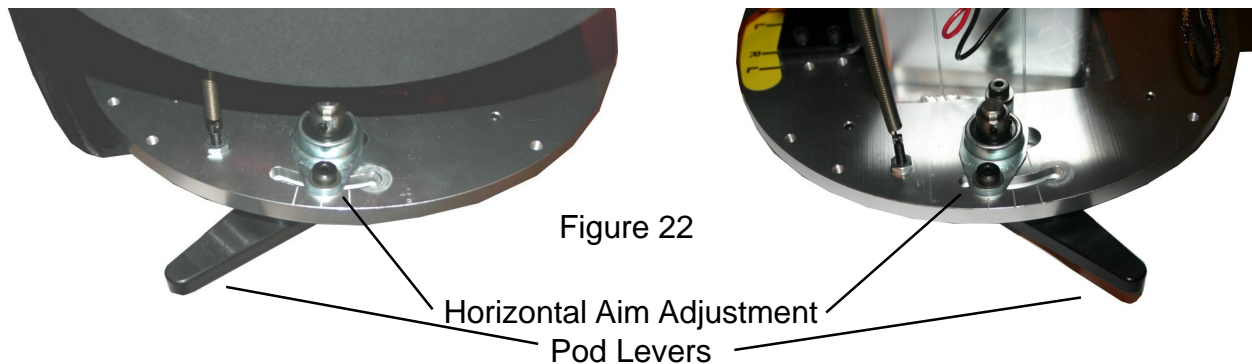
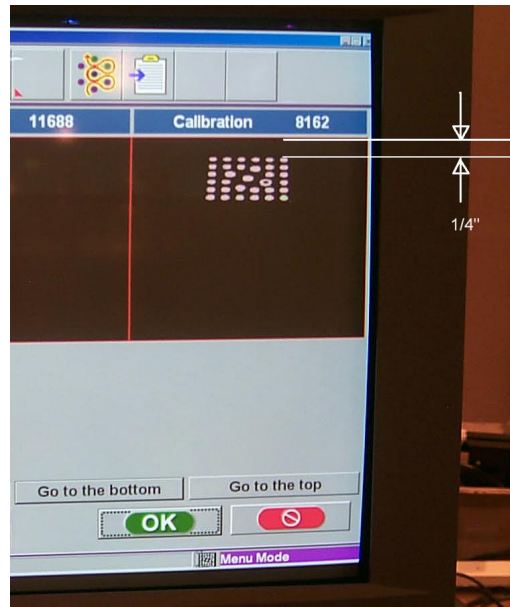

Figure 22
Figure 23
F. Turn the left and right pod levers all the way out (away from lift centerline). (Figure 22)
- G. Check the screen to make sure the top of calibration target is located $\frac{1}{4}$ " from the top of the calibration view screen (Figure 23). If the target is not in the correct location on the screen, the left camera will have to be aimed. Horizontal adjustments to the camera aim can be made after loosening the socket head cap screw above the lever at the bottom of the left pod (Figure 22). Make sure the lever stays to the far left while rotating the pod assembly. When the calibration camera is aligned properly, tighten the socket head cap screw.